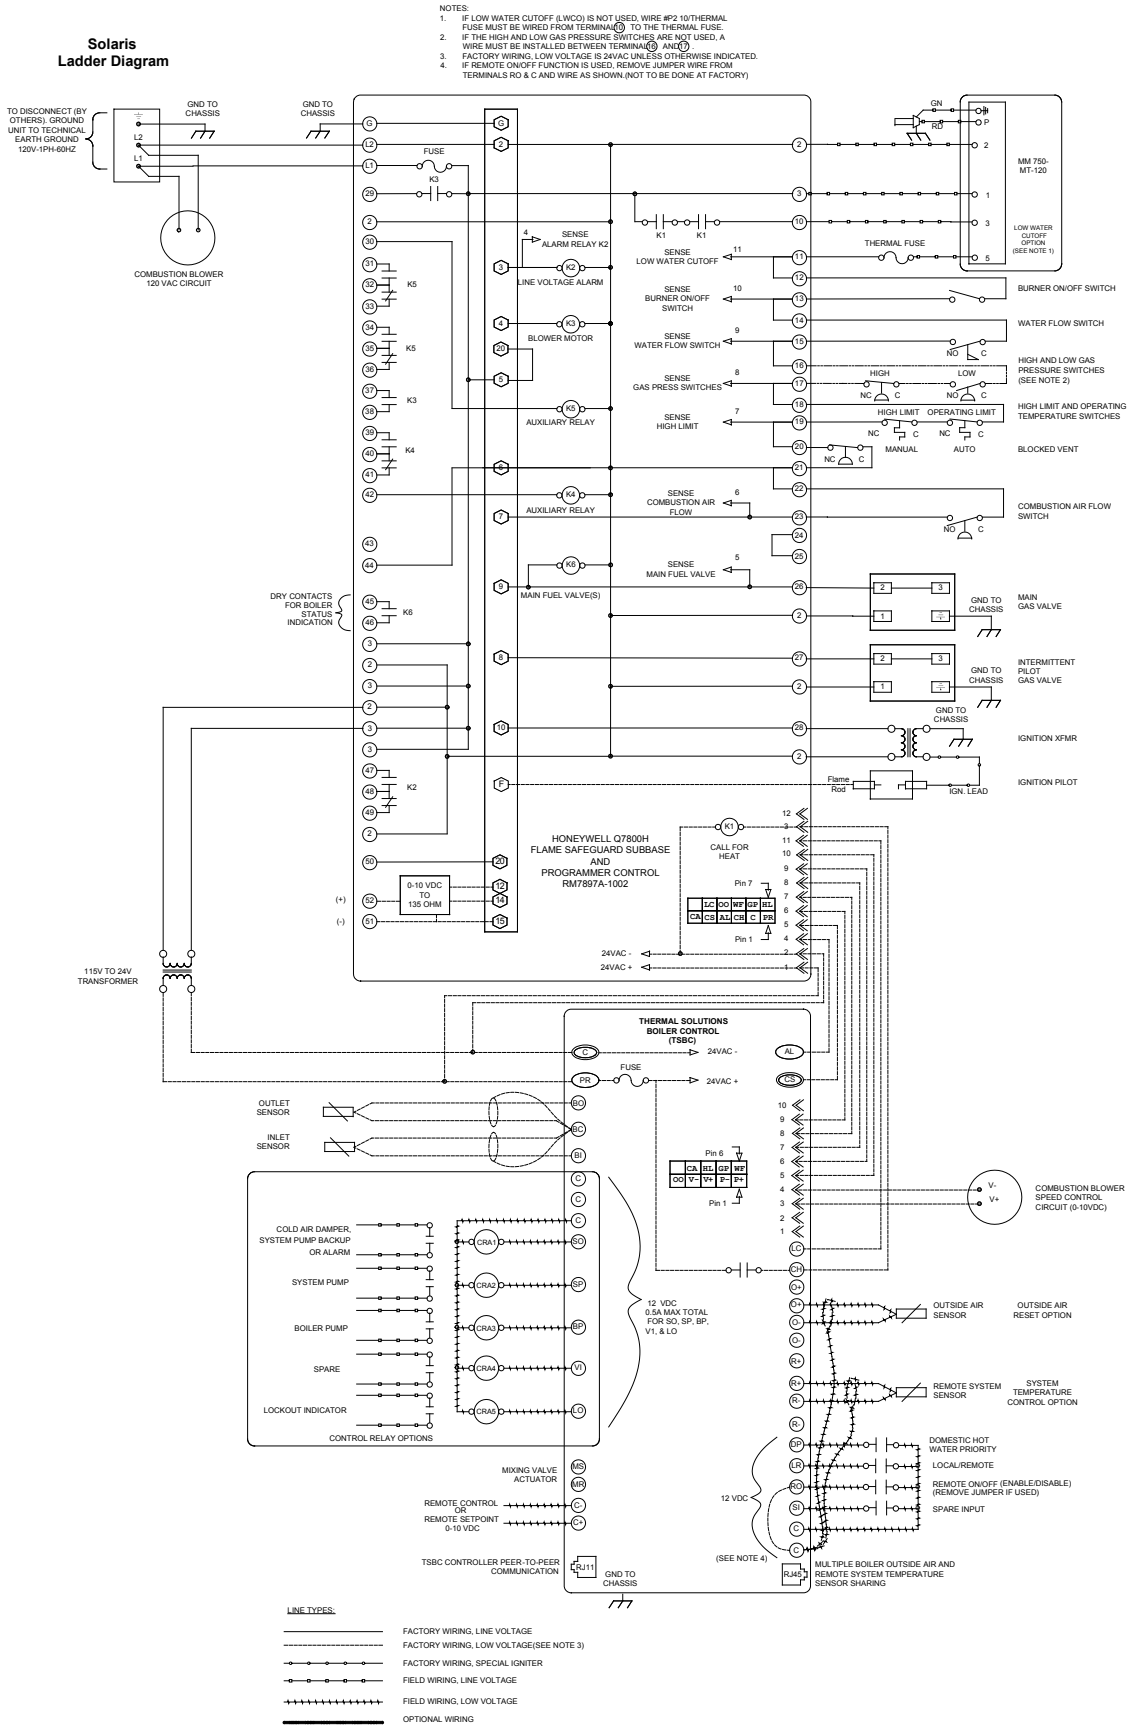

Figure 15: Internal Water heater Wiring Ladder Diagram
- B.** A separate electrical circuit must be run from the main electrical service with an over-current device/disconnect in the circuit. A service switch is recommended and may be required by some local jurisdictions. Install the service switch in the line voltage “Hot” leg of the power supply. Locate the service switch such that the water heater can be shut-off without exposing personnel to danger in the event of an emergency. Connect the main power supply and ground to the three (3) water heater wires (black, white and green) located in the junction box at the back of the water heater jacket.
- C.** Refer to Figures 15 and 16 for details on the internal water heater wiring.